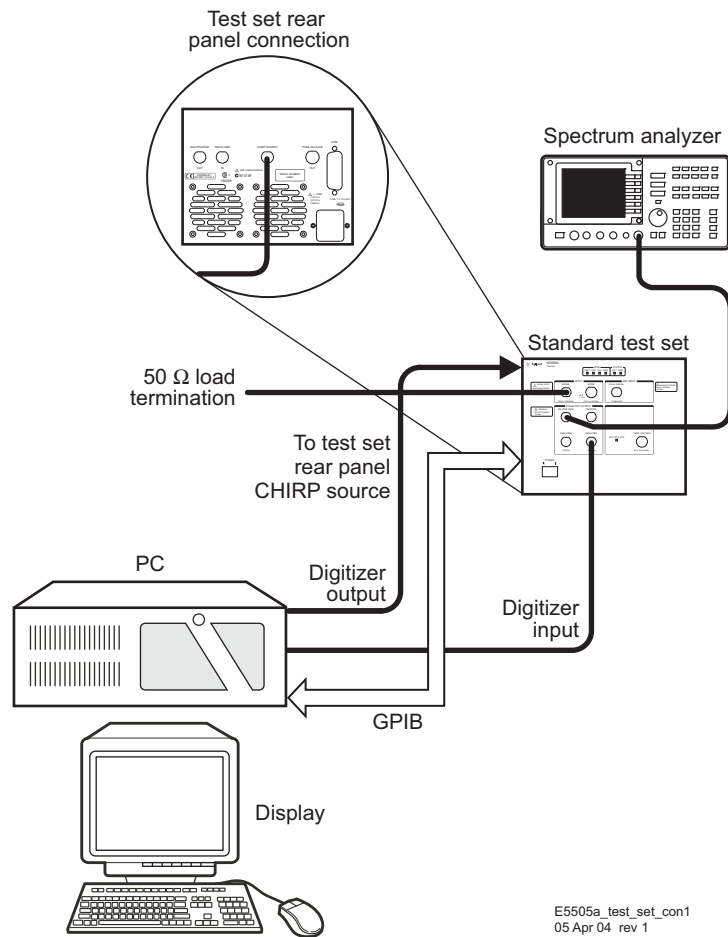
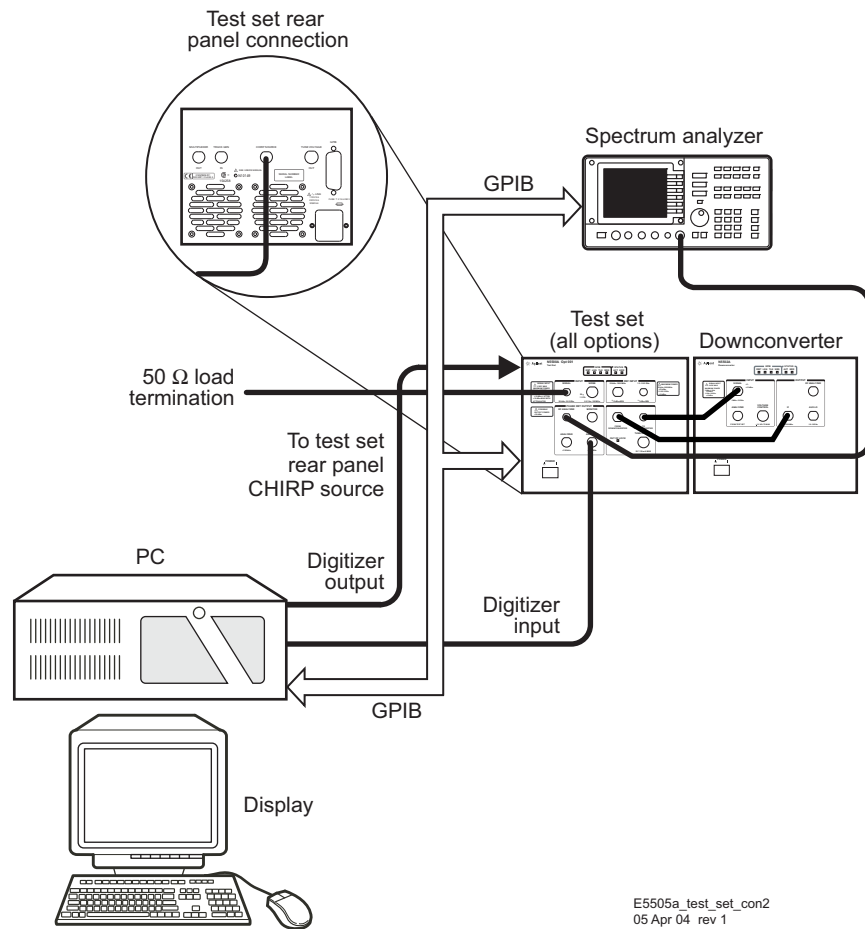

Figure 322 Test set connection, standard model
Figure 323 Test set (options 001 and 201) and downconverter connection
- 2 Refer to Figure 322 below and Figure 323 on page 428 for examples of system interconnections.